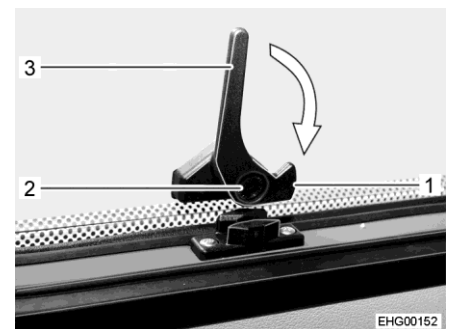

Fig. 51 Catch lever, at the bottom ("open" position)
- Press and hold the safety knob (Fig. 51,2) on the bottom catch lever (Fig. 51,3).
- Turn the bottom catch lever (Fig. 51,3) a quarter turn towards the window frame until the locking catch (Fig. 51,1) engages.